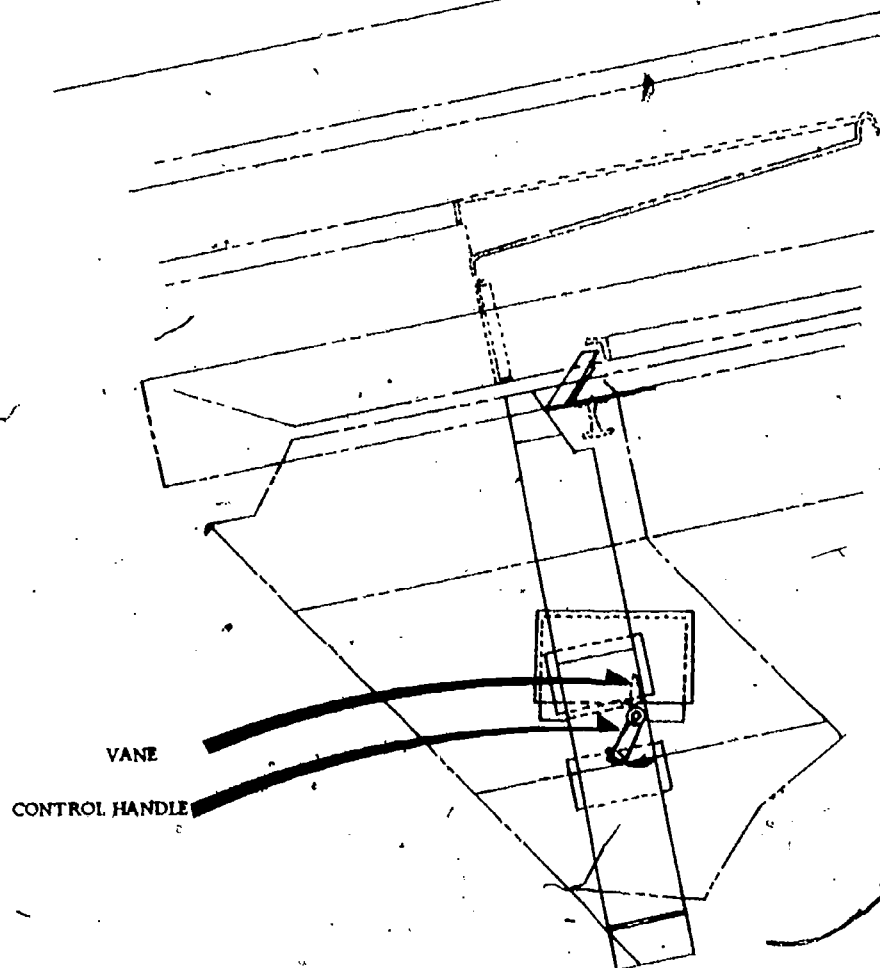

Fig 6-17. Chip chute control.
- (3) Chip chute control (fig 6-17). A handle on the outside of the chip chute operates a vane on the inside. When the plant is set to produce stone chips, the vane is opened to allow the chips to pass from the screen to the chip conveyor. When chips are no longer needed, the vane is closed and the conveyor clutch is disengaged.